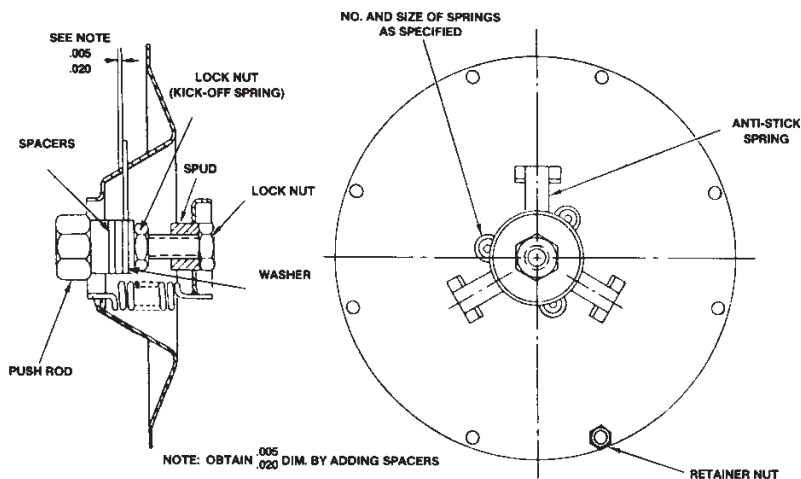

Figure 4-2. Kickoff Spring Assembly
C. 3-3/4-inch Dia. Bellows w/Kickoff* Spring (see Figure 4-2)
C. 3-3/4-inch Dia. Bellows w/Kickoff* Spring (Cont.) (see Figure 4-2)